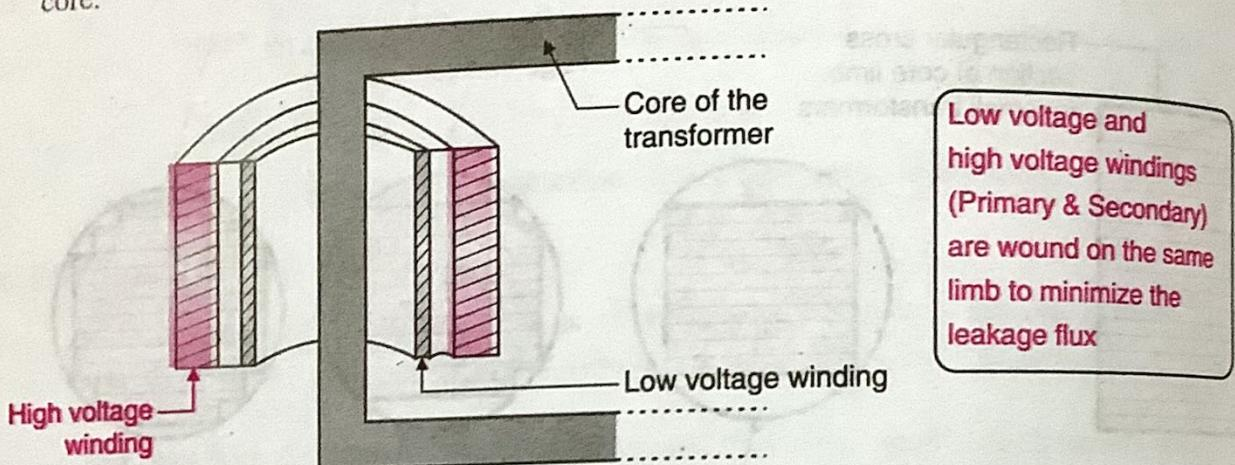

Fig. 6.2.4 : Cylindrical windings of a practical transformer
- In Fig. 6.2.4 we have shown the primary and secondary windings to be on two different limbs of the core.
- In order to avoid this, the primary and secondary windings are mounted on the same limb of the core as shown in Fig. 6.2.4.
- The cylindrical coils (windings) are placed in the concentric way around the same limb with the low voltage winding placed inside and high voltage winding is placed outside it with proper insulation between the windings as shown in Fig. 6.2.4.